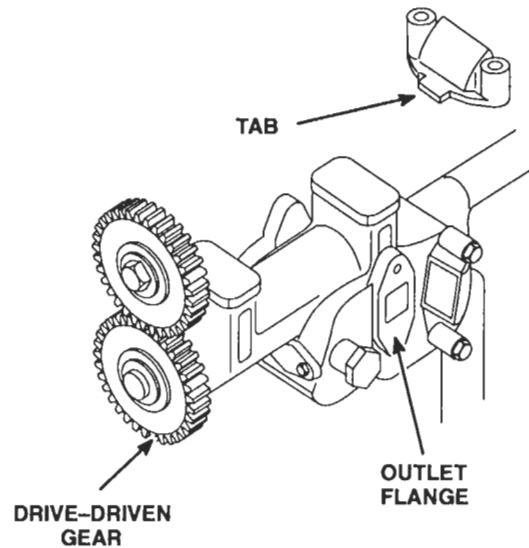

Figure 10. Oil Scavenging Outlet Flange Mounting
9. Affix a new gasket to the scavenging pump outlet pipe, then secure the pipe to the pump body with lock washers and bolts. When installing an outlet flange (Figure 10.), be sure the opening in the flange is toward the front of the pump (toward the drive-driven gear).